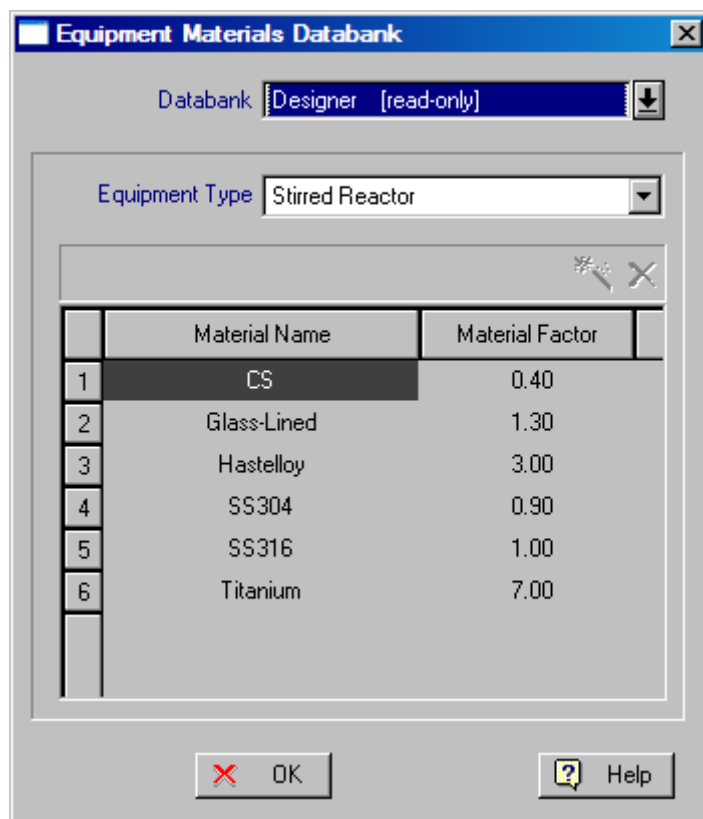

Figure 16.8: The construction material databank dialog.
**Databanks \ Equipment Materials...** menu item from the main menu (or hit **Ctrl+F3** as a shortcut.) The following dialog (Figure 16.8) appears: